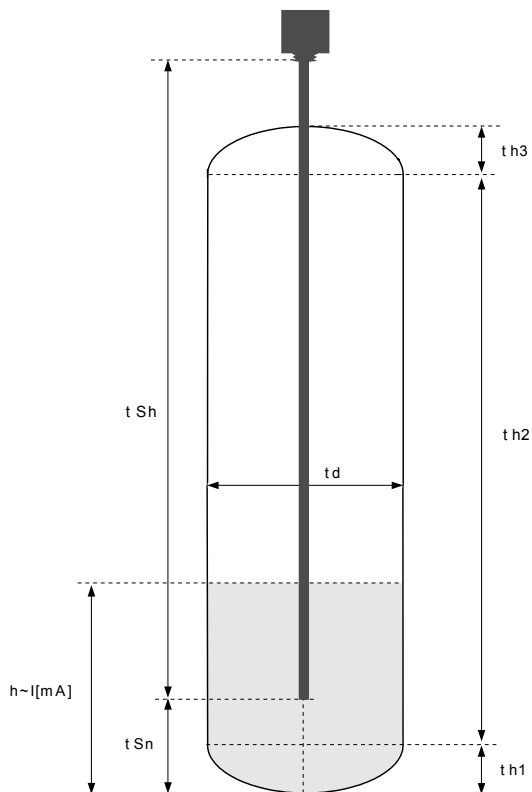
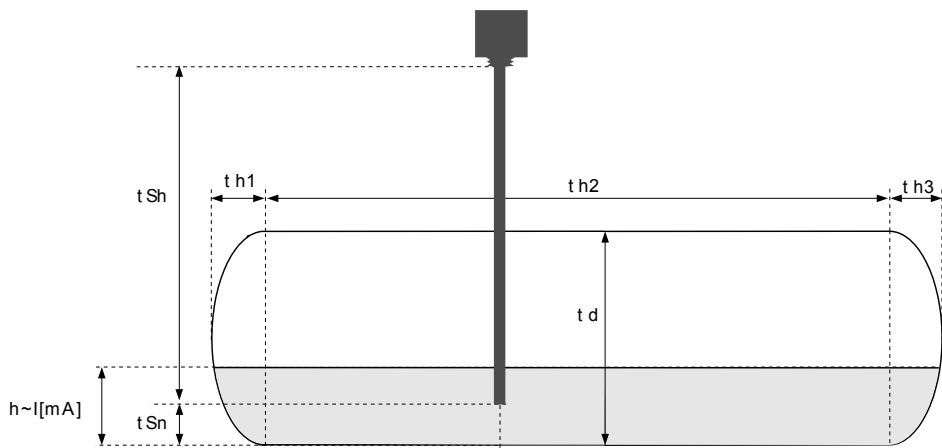

Figure 7.1 Parameters of cylindrical tank in vertical position.
Figure 7.2 Parameters of cylindrical tank in horizontal position.
„t h1”, „t h2”, „t h3”, „t d” - the parameters defining shape of cylindrical tank (Figure 7.1 and Figure 7.2).
- „t Sn”, „t Sh”** - parameters defining the length and position of the sensor used to measure level of liquids, gases or solids in the tank (Figure 7.1, 7.2).